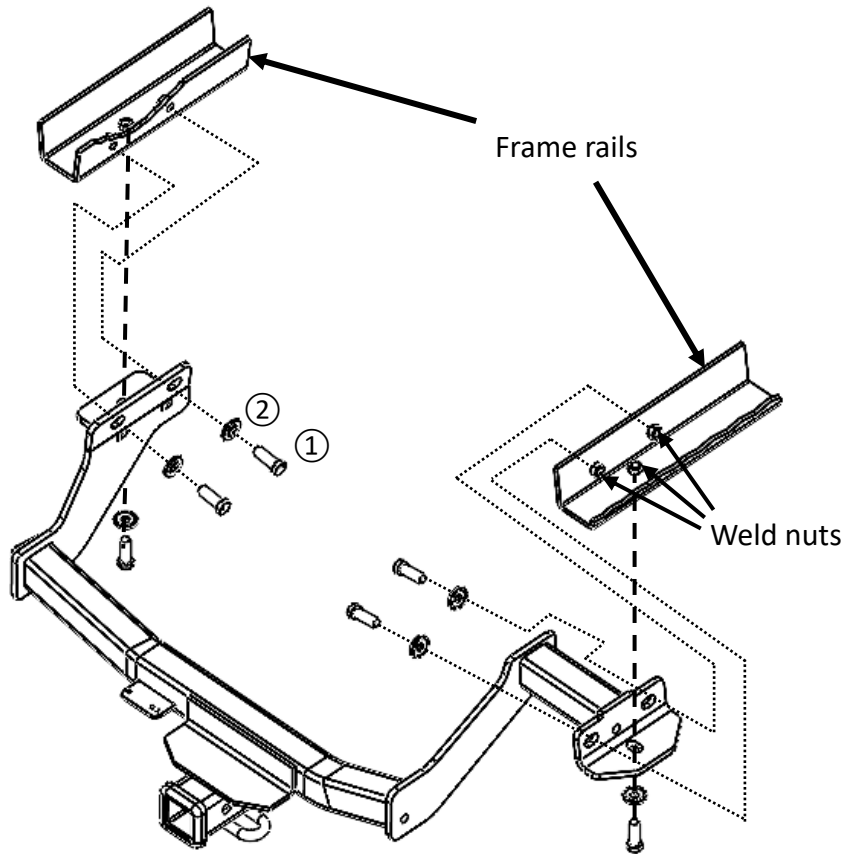

Figure 1
- Install hitch** – Using wire brush to clean the weldnuts if needed. Raise the hitch into position and loosely install conical washers ② and hex bolt ① to the hitch, see **Figure 1**.
3. Remove electric harness clip – Using a plastic trim tool, remove (1) electric harness clip from the bottom of frame rail on driver side.
4. **Install hitch** - Using wire brush to clean the weldnuts if needed. Raise the hitch into position and loosely install conical washers ② and hex bolt ① to the hitch, see Figure 1.